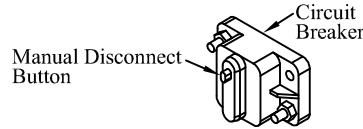

Figure 2: Manual disconnect location.
- Step 4. To avoid risk of a 12 volt electrical short, disconnect the #4 power cable from the positive side of the battery or manually trip the circuit breaker (Figure 2).